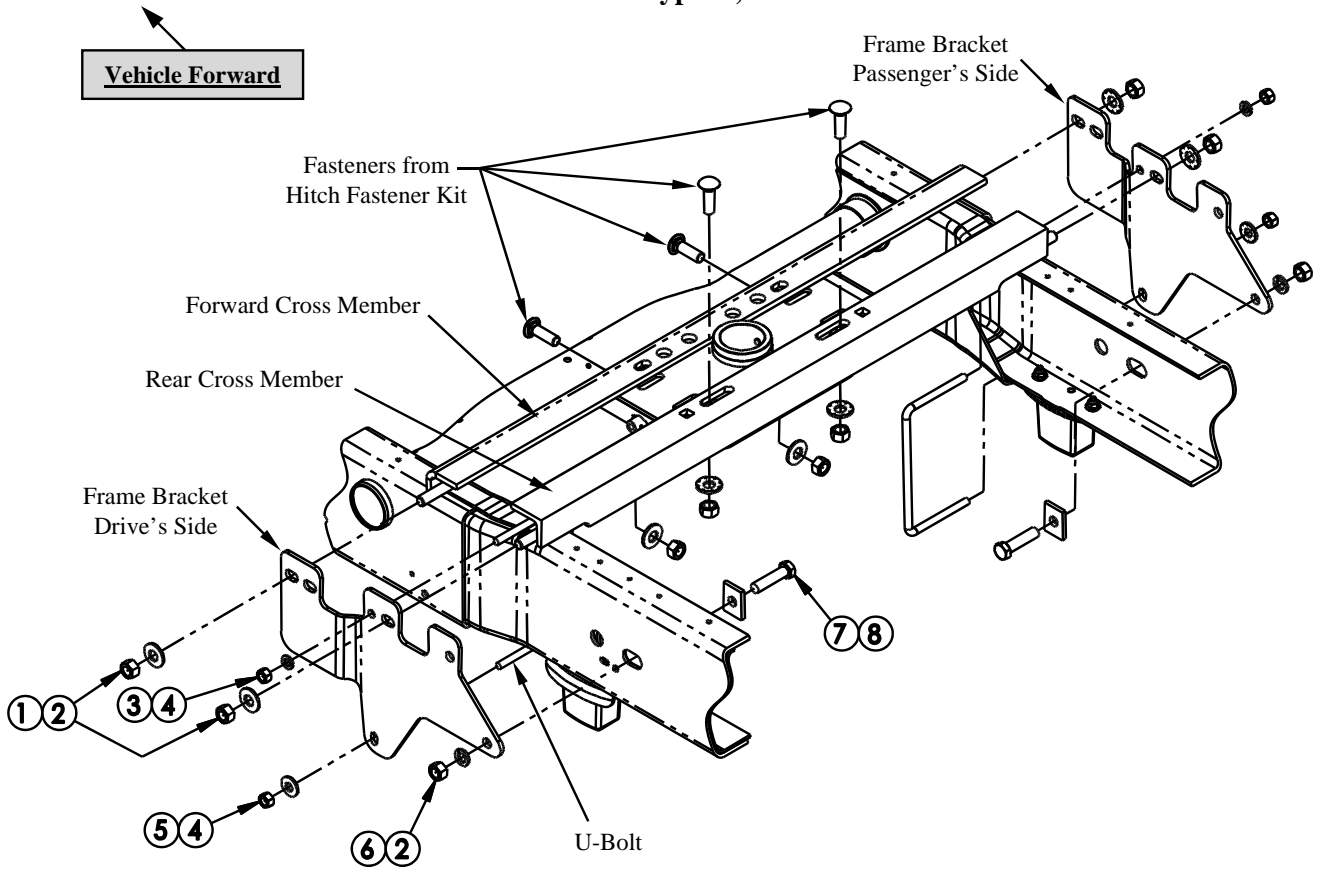
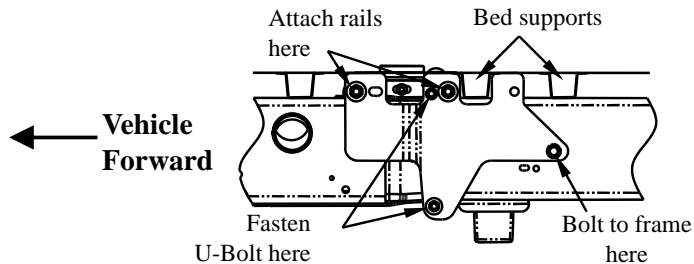

Figure 1
Figure 5
9. Place two 5/8" Gr8 carriage bolts from the Hide-A-Goose fastener kit into the long slots on the top of the rear cross member, as shown in Figure 1.
12. Line up the mounting slots on the frame brackets with the threaded studs on the ends of the rails. See Figure 5 to identify which holes on the frame brackets to use. Loosely attach frame brackets to rails with 5/8" hex nuts and conical toothed washers as shown in Figure 1.
13. Use the U-Bolts to attach the frame brackets to the frame as shown in Figure 1. Loosely fasten the U-Bolts to the frame brackets using a 1/2" nut and lock washer on the top leg of the U-Bolt, and a 1/2" nut and conical washer on the bottom leg of the U-Bolt.
14. Attach the frame bracket to the frame through the slot in the frame using the 5/8" x 2" bolt, 1/4" spacer, lock washer and nut as shown in Figure 1.